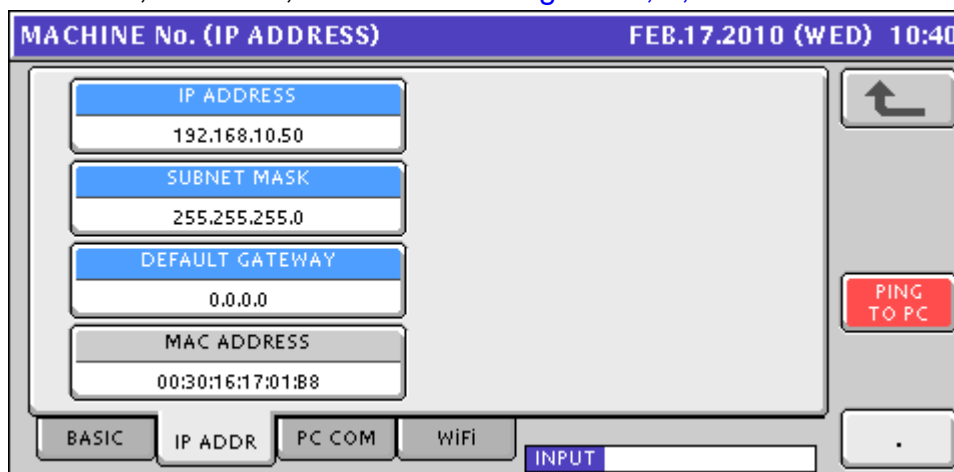

Figure 6. Machine No. (Comms) – IP Address Tab
- e. Take pictures of the settings for the three communication setting sections: *IP ADDR*, *PC COM*, and *WiFi*. See Figures 6, 7, and 8.